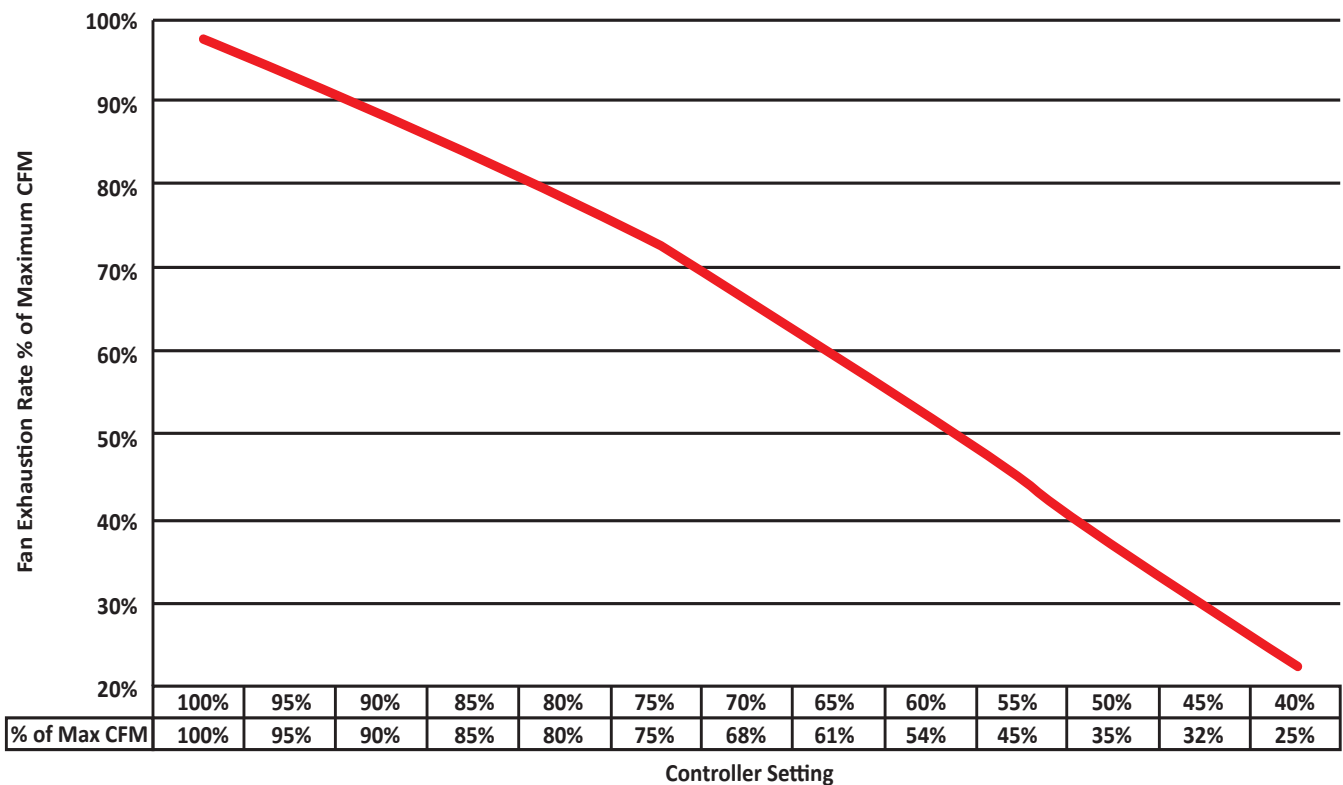

Figure 4.5: Variable Fan Performance
- 50% fan speed setting does not equal 50% CFM (fan output) (Figure 4.5).
Using water can be an effective cooling method through evaporative heat loss. Sprinklers are recommended over misters/foggers as these have been found to be most effective (Figure 4.5).